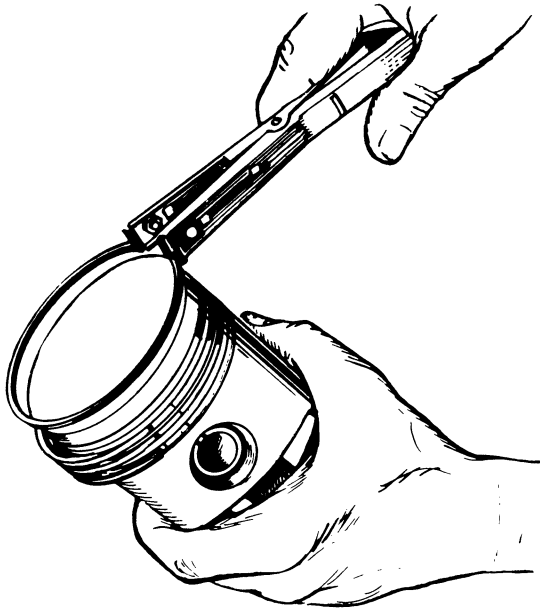

FIGURE 30. REMOVING PISTON RINGS
5. Remove the piston rings from the piston with a piston ring spreader as shown in Figure 30. Remove the piston pin retainer and push the piston pin out.